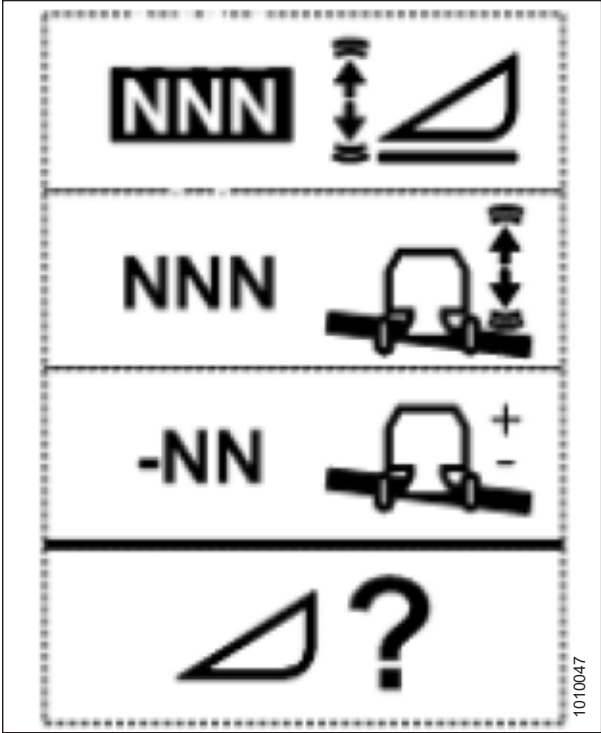

Figure 6.57: Height Sensitivity Change Page
1. Use HEADER SETTINGS key (A) to display the HEADER SENSITIVITY CHANGE page as shown in Figure 6.57, page 195.
2. Use the UP key (B) or DOWN key (C) to adjust the highlighted item. The height sensitivity setting range is 0 (least sensitive) to 250 (most sensitive) in increments of 10.